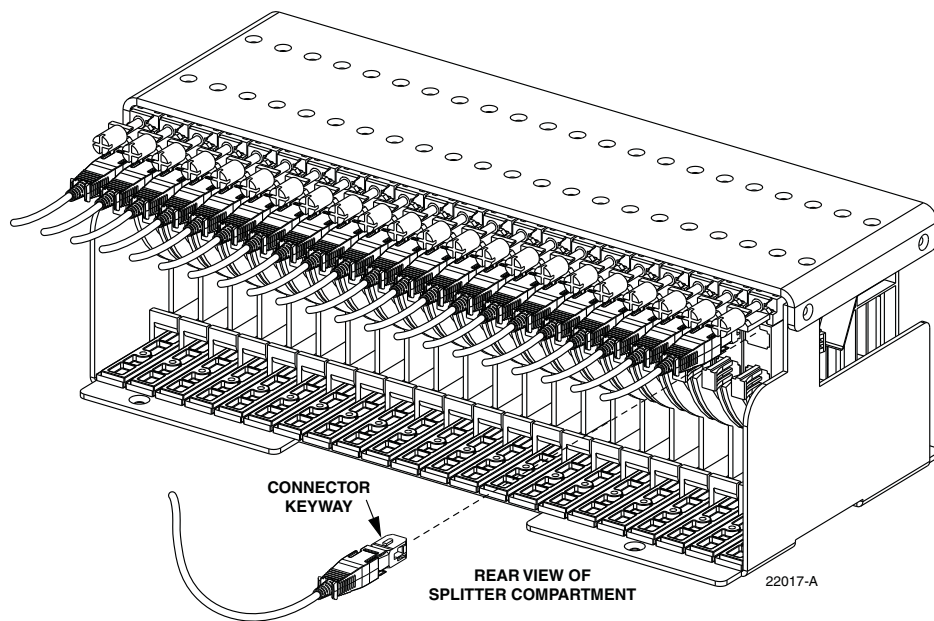

Figure 58. Feeder Cable Connector
9. Insert the feeder fiber connector into the appropriate bulkhead adapter (remove dust cap from adapter) at the rear of the splitter compartment as shown in Figure 58.